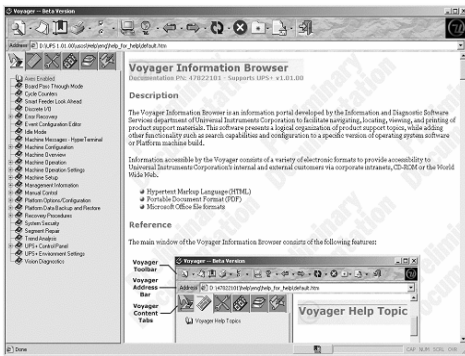

Figure 9
- User created annotations and F1 “Quick Help” links (Figure 9)